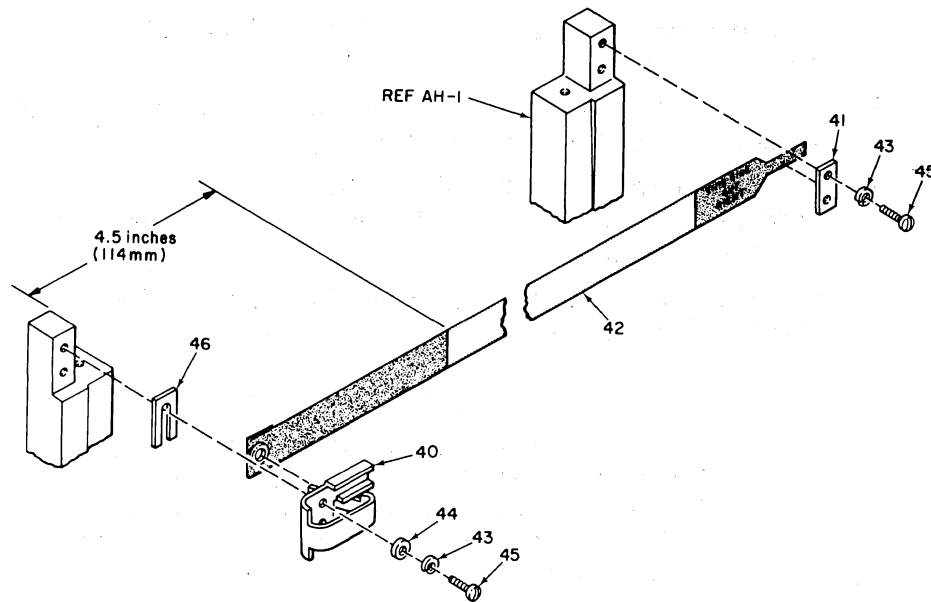

Figure 5-2. TIMING FENCE MOUNTING, MODEL 306
**D. TIMING FENCE ASSEMBLY 63060179-5001, FLEXIBLE (FIG. 5-2, 8-2)**
3. To remove spring clasp and clamp, from right and left mounting posts respectively, remove screws, washers (Fig. 8-2/45, 43, 44). (Some models may have shim/s between post and fence (See Fig. 5-2).
#### A. POSITIONING OF FENCE (SEE FIG. 5-2)
#### B. OPTIC HEAD (NO LOCATING DIMENSION) (SEE FIG. 5-2)